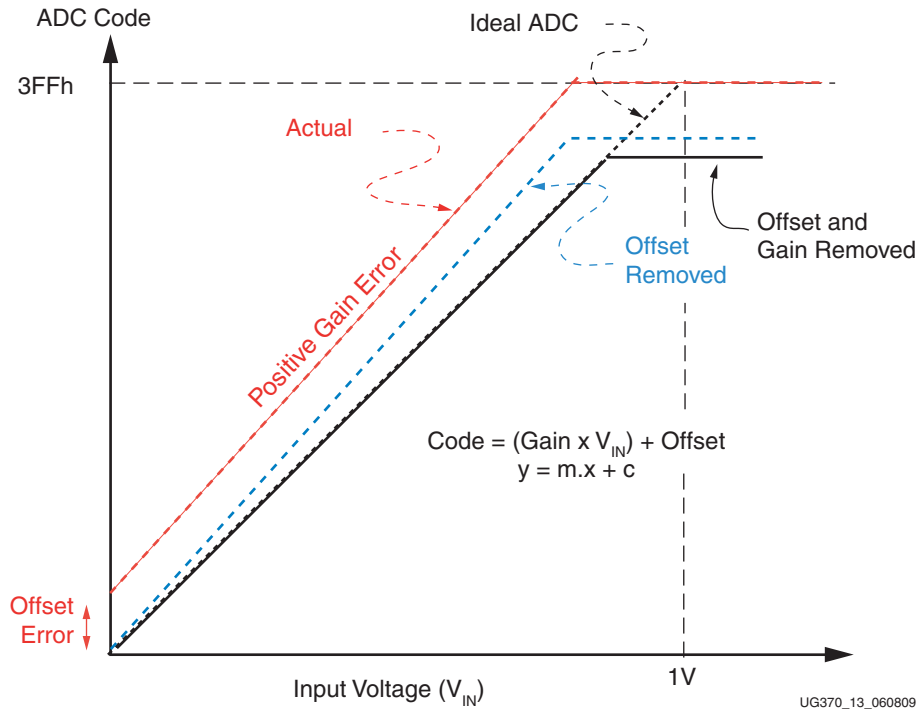

Figure 13: Offset and Gain Correction
The next five bits store the magnitude of the gain correction factor. Each bit is equivalent to 0.1%. For example, if the ADC has a positive gain error of +1% (see Figure 13, page 33), then the gain calibration coefficient records -1% (the -1% correction applied to cancel the +1% error). Since the correction factor is negative, the sixth bit is set to zero. The remaining magnitude bits record 1%, where  $1\% = 10 \times 0.1\%$  and  $10 = 1010$  binary. The Status register 0Ah records 0000 0000 0000 1010. With five bits assigned to the magnitude, the calibration can correct errors in the range  $\pm 0.1\% \times (2^5 - 1)$ , or  $\pm 3.1\%$ .
Figure 13 shows an ADC transfer function containing offset-and-gain errors (red dashed line). The ideal transfer function is shown as a dashed black line. The ADC transfer function has the form of  $y = m \cdot x + c$  (linear). Offset is defined as the ADC output code when the input is 0V (where the transfer function crosses the y axis). This offset is removed by digitally subtracting this offset. The result of this offset calibration is shown in Figure 13 by the blue dashed line.
**Note:** Digital calibration can result in some loss of the analog input range at the start and end of the ADC input range. This is illustrated in Figure 13 where the ADC output never reaches 3FFh. Typically, the loss of input range is no more than 20 mV at either end of the transfer function. For most monitoring applications, the loss is insignificant.